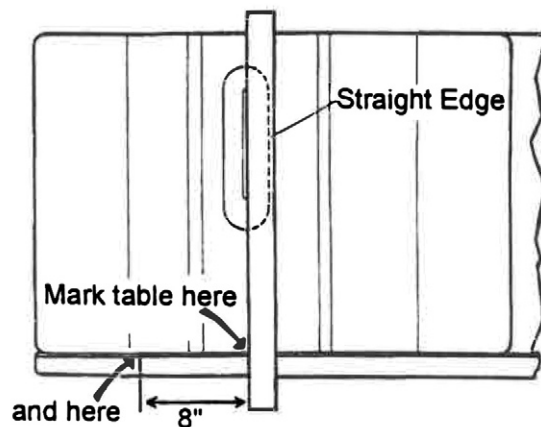

Figure 4
5. Measure to the left eight inches and place a mark on the table lip. This is the horizontal location for the first mounting hole. Refer to Figure 4.